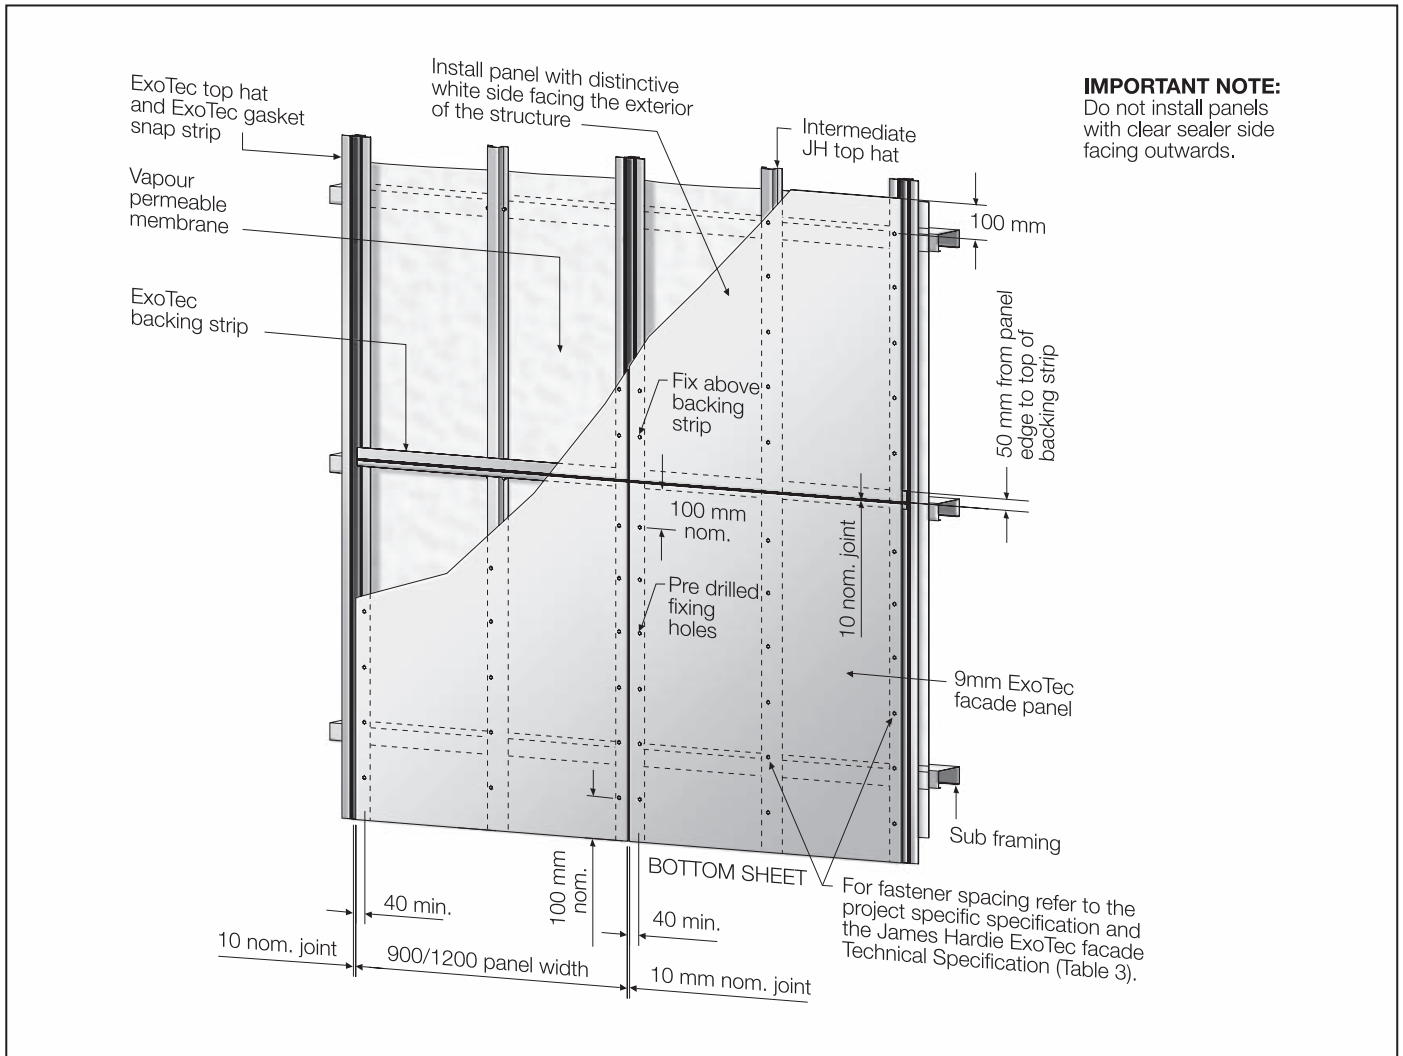

FIGURE 8 TYPICAL PANEL AND FRAMING LAYOUT
1. Mark fastener locations as specified, see Figure 8.
1. Mark fastener locations as specified (see Figure 8).